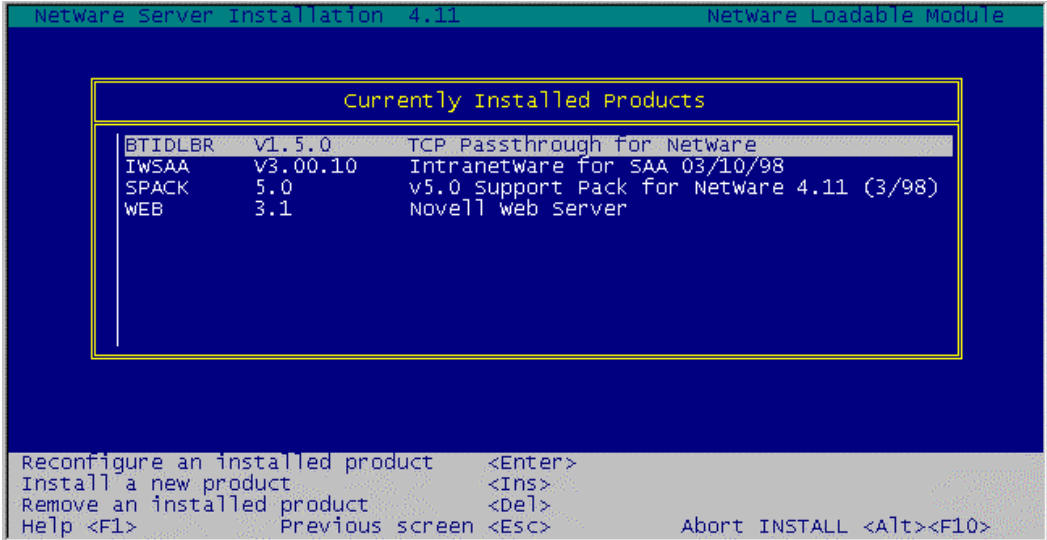

Figure 16-26. Passthrough on Installed Products List
1. Verify the Passthrough application is installed on your server. Load Novell's INSTALL program and display the Currently Installed Products. TCP/IP Passthrough should be listed (Figure 16-26).